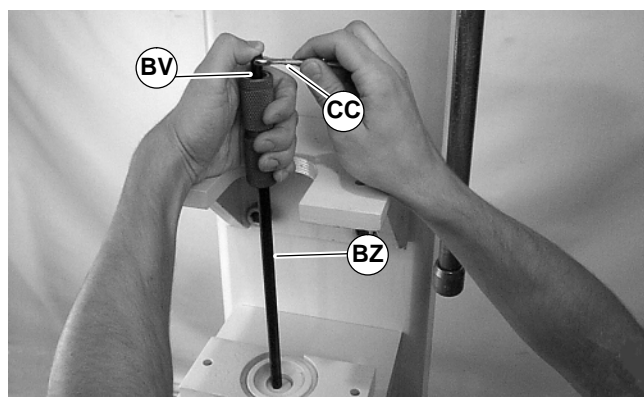

Figure 59
2. While holding bearing removal tool (BV) in position, insert extension tool (BZ)(25-08, part of tool kit 4500) into opposite end of pulley (BW). Rotate bearing removal tool (BV) to engage hex tip of extension tool (BZ) into screw (CA).
3. While maintaining extension tool (BZ of Figure 59) position, use a wrench (CC) to rotate bearing removal tool (BV) to expand flare.